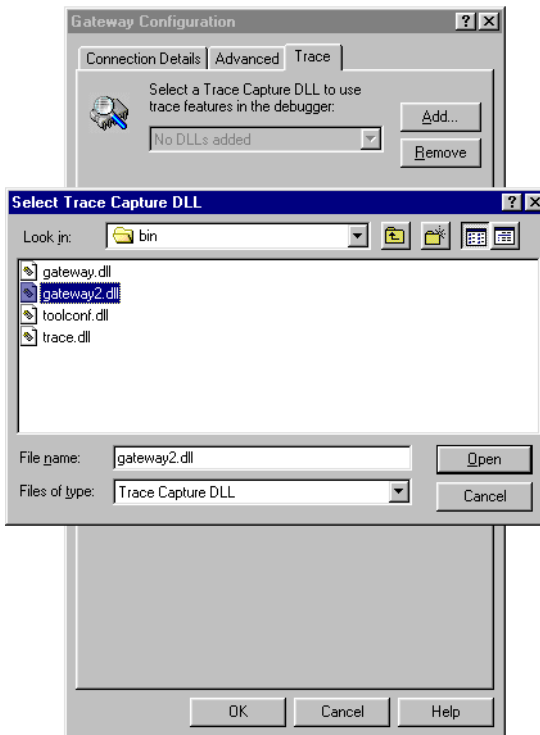

Figure 2-11 Selecting Gateway2
2. Click on the **Add...** button. This displays the Select Trace Capture DLL dialog as shown in Figure 2-11 on page 2-14.